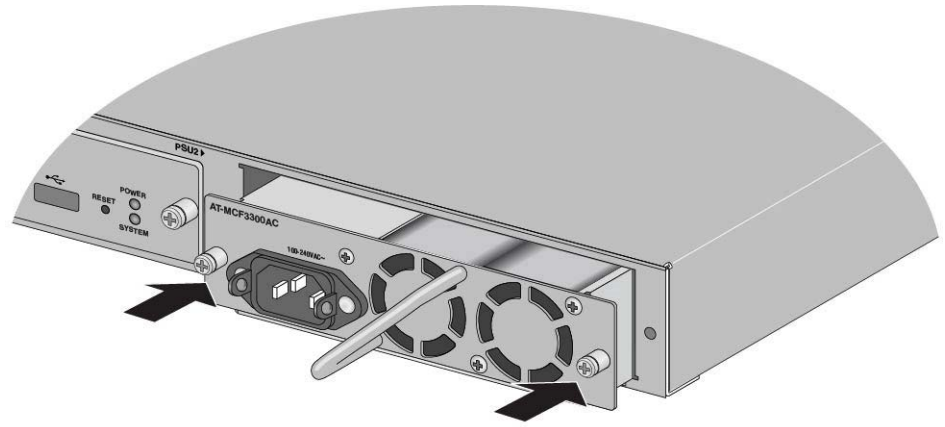

Figure 37. Seating the Power Supply on the Connector in the Chassis
5. Press on both sides of the faceplate to seat the power supply on the connector inside the chassis. Refer to Figure 37 on page 73.